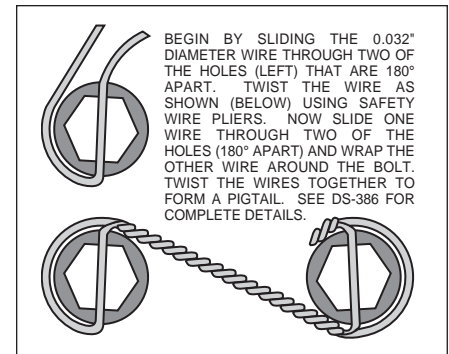

Figure 3. Safety Wire Diagram
- With the larger I.D. side of the rotor (5) facing away from the hat (6), bolt rotor (5) to hat (6) through the backside of the rotor using washers (7) and bolts (8). Using an alternating sequence, apply red *Loctite*® 271 to the threads and torque bolts to 155 **in-lb**. For an added measure of security, the bolts may be safety wired using standard 0.032 inch diameter stainless steel safety wire as shown in Figure 3. Please refer to Wilwood's data sheet DS-386 for complete safety wire installation instructions.